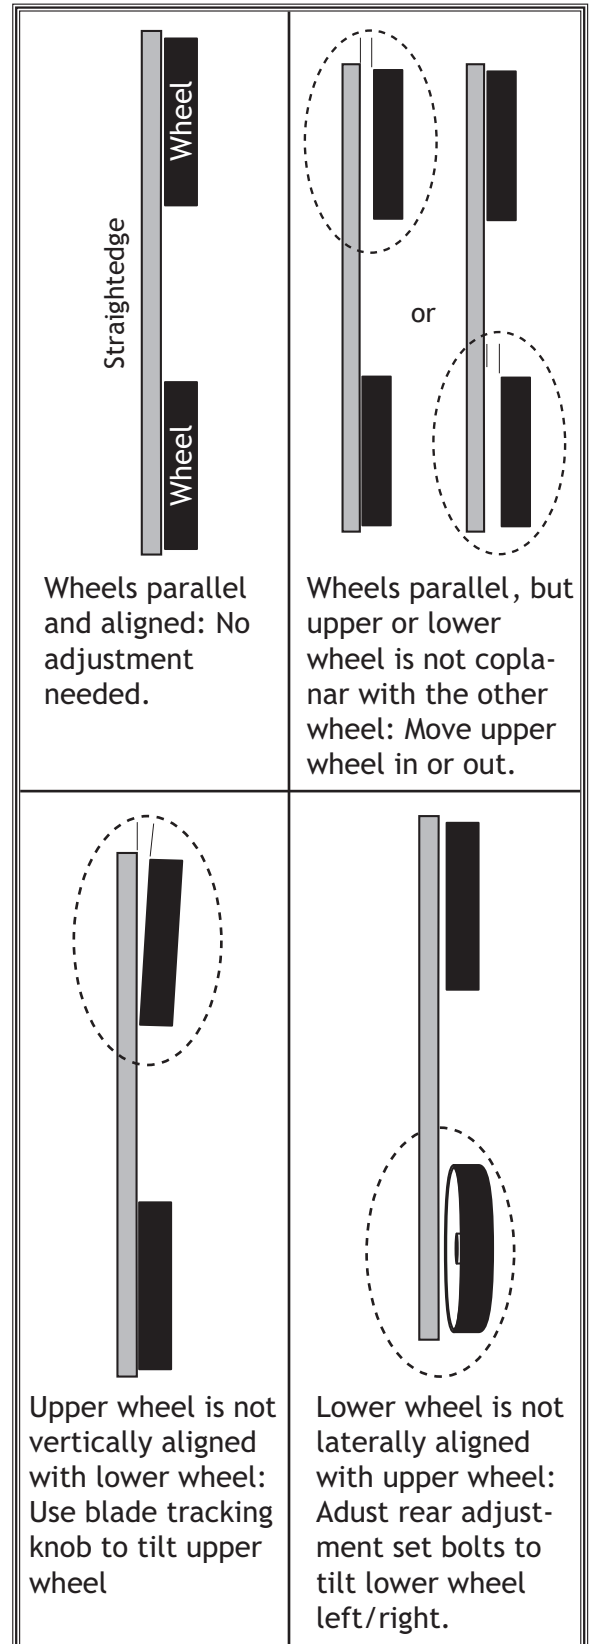

Figure 47. Wheel alignment illustration.
4. Check wheel alignment, and adjust tracking knob to bring both wheels into alignment as much as possible. If wheels cannot be adjusted coplanar, use **Figure 47** to determine how to proceed with alignment adjustments.